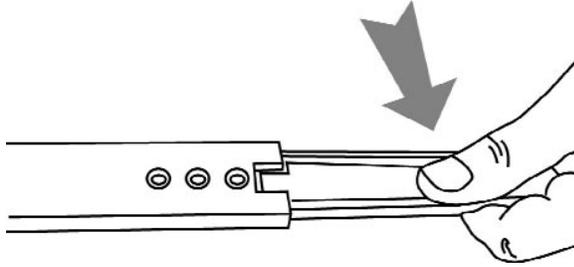

Figure 46 Remove Slide Rail
Step 1. Remove inner slide rail as shown in FIGURE 46. Press down on latch to release.